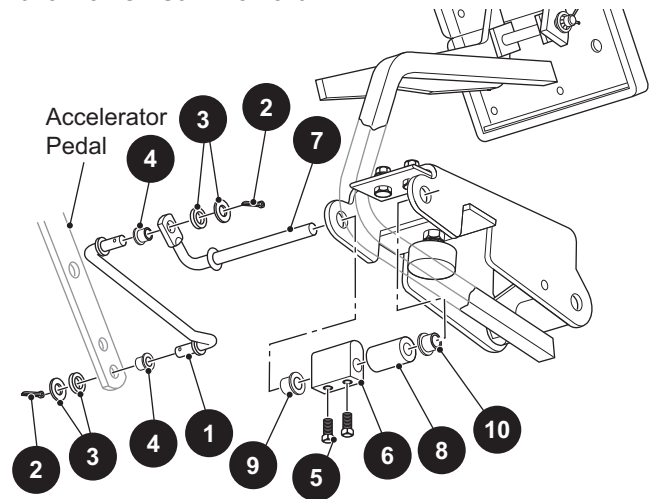

Figure 30 Park Brake Linkage and Kick-Off Cam
Remove the cotter pin (2), washers (3) and bushings (4) from linkage rod (1). Remove the linkage rod (Figure 30).
2. Loosen the two setscrews (5) from the cam (6) and remove the cam pivot (7), cam and spacer (8) (Figure 30).
6. To adjust the kick-off cam (6), engage the parking brake and loosen the two cam setscrews (5) and rotate the cam until it contacts the latch arm.